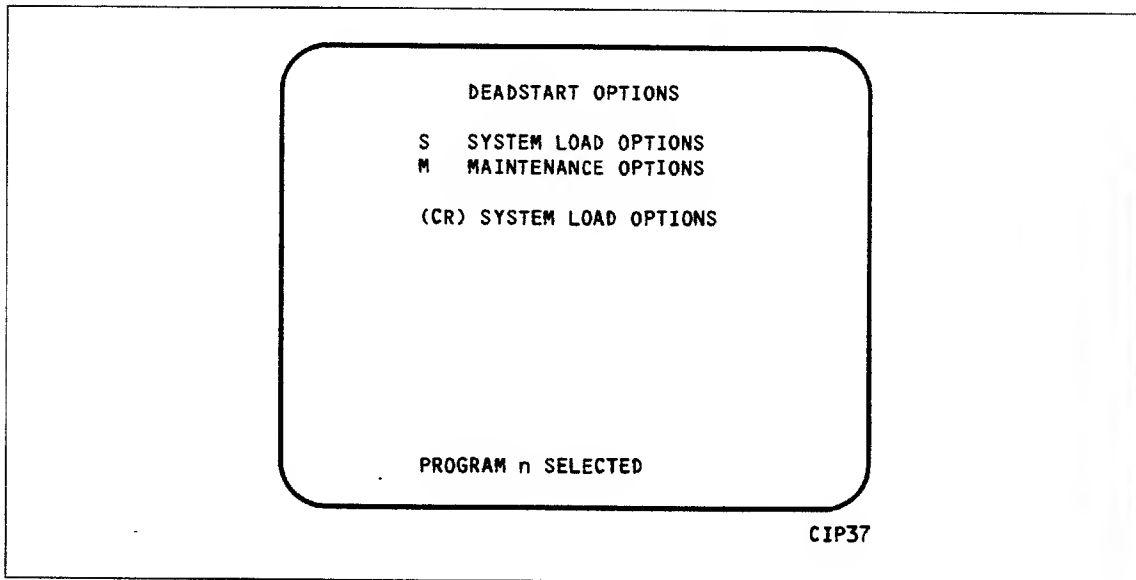
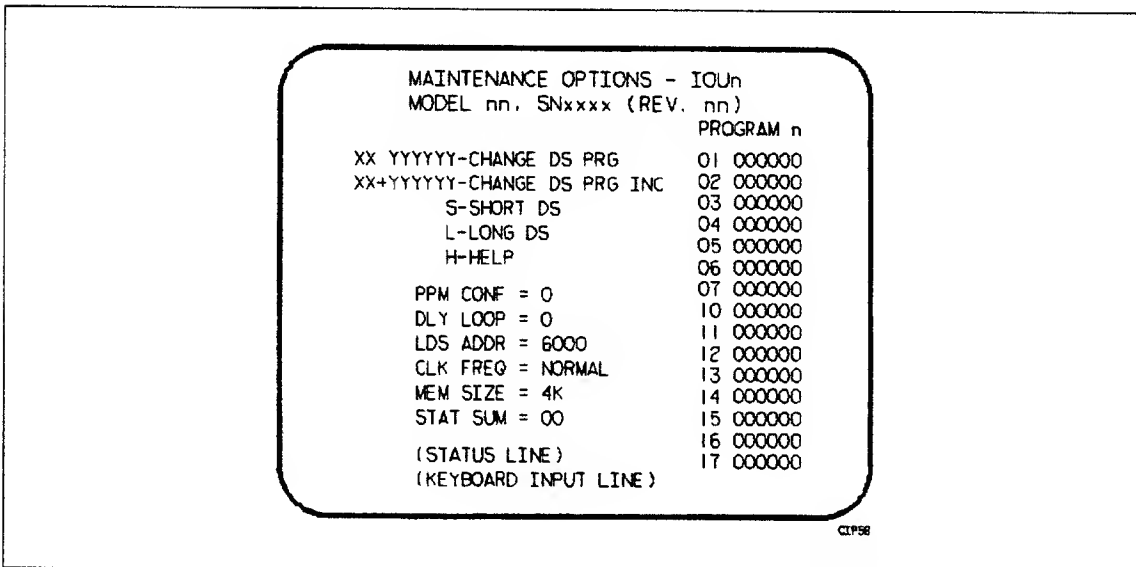

Figure 3-1. Deadstart Options Display (Single IOU Systems)
Figure 3-2. Maintenance Options Display (Single IOU Systems)
- ___ 1. When either a CC634B console with option GK427A installed or a CC545 console has been initialized for use as the primary operator console, complete the following to bring up the DEADSTART OPTIONS display shown in figure 3-1.
- ___ 2. When a CC634B without option GK427A installed has been initialized for use as the primary operator console, complete the following steps to bring up the DEADSTART OPTIONS shown in figure 3-1.
- ___ 3. If the appropriate deadstart program is selected,¹ type S or press (CR); the INITIAL OPTIONS display appears. Proceed with step 5.
- ___ a. Type M to bring up the MAINTENANCE OPTIONS display shown in figure 3-2.
- ___ 1. If you are deadstarting your OS from either a CC634B with option GK427A installed or from a CC545, perform the following steps to bring up the DEADSTART OPTIONS display shown in figure 3-1:
- ___ 2. If you are deadstarting your OS from a CC634B without option GK427A installed, perform the following steps to bring up the DEADSTART OPTIONS display shown in figure 3-1:
- ___ 3. From the DEADSTART OPTIONS display, type S or press (CR); the INITIAL OPTIONS display appears.
- ___ 4. From the INITIAL OPTIONS display, press (CR) to select the default option, OS LOAD AUTOMATIC. This option assumes that the deadstart program is set correctly for deadstart level (0, 1, 2, 3) and for CMRDECK selection (NOS), or for CMR selection (NOS/BE), or for DCFIL selection (NOS/VE).